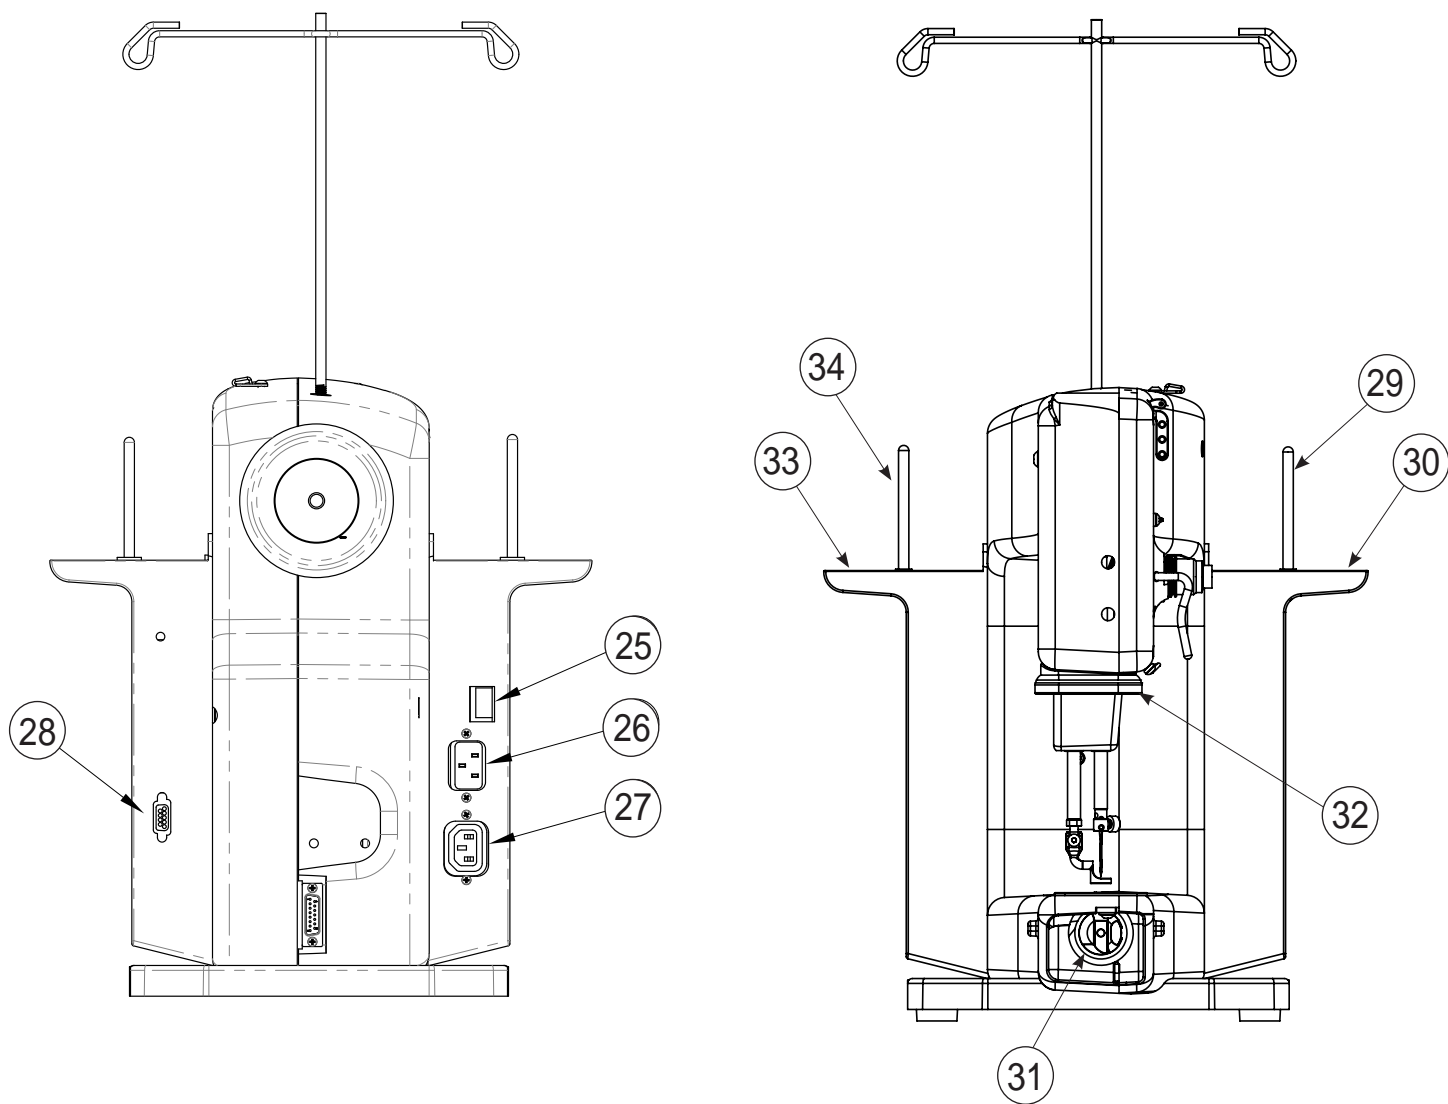

Figure 4
Check that the On/Off switch (see page 12, Figure 4, #25) is turned off (the 0 setting). Plug the power cord into the top power outlet on the back of the machine (Figure 5). Do not plug the power cord into an electrical outlet at this time.
The accessory power connector (see page 12, Figure 4, #27) is available for powering future attachments as they are developed by manufacturer. (Not yet available.)
1. Plug in the foot pedal cord end into the foot pedal connector (see page 12, Figure 4, # 28).